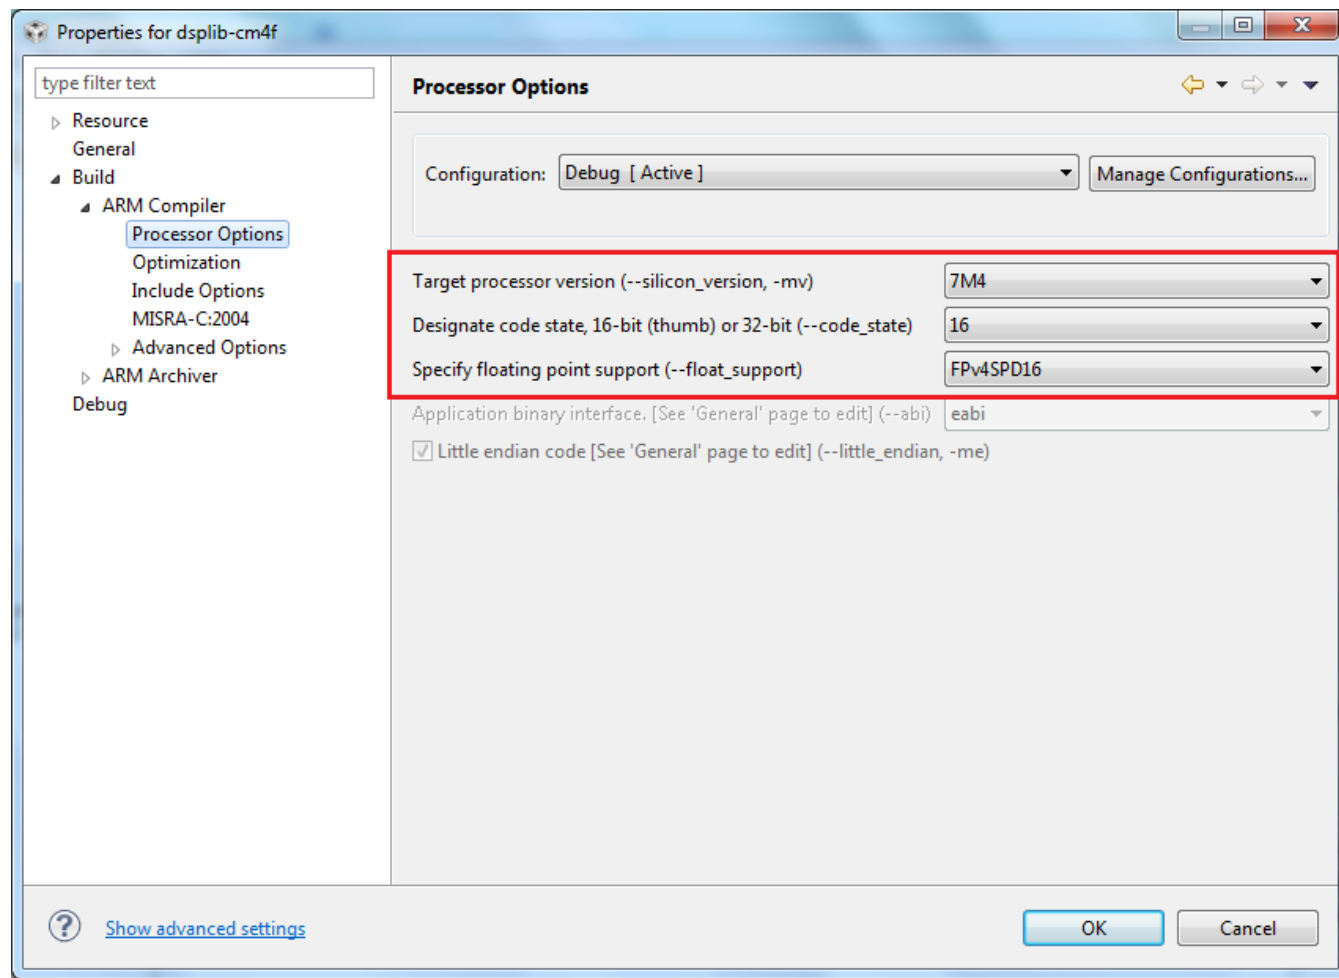

Figure 5. The Processor Settings for a Cortex-M4 Processor With Hardware FPU Support
3. Confirm that the *Target_processor version* (*--silicon_version*, *-mv*) entry matches your processor in the Processor Options panel (see Figure 5). For this example, the Target processor should be 7M4 (as opposed to 7M3 for any of the Stellaris Cortex-M3 products).